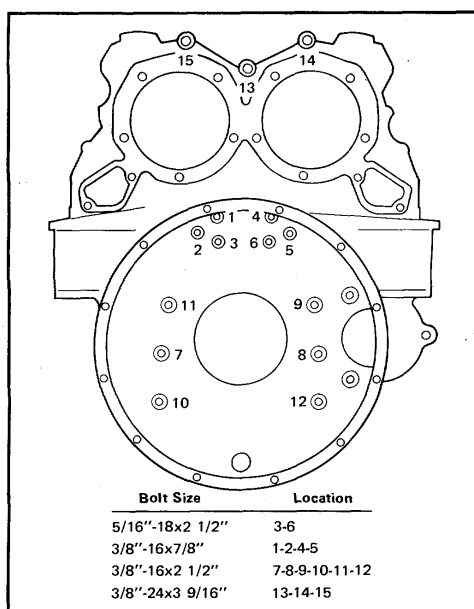

Figure 3. Flywheel Housing Bolt Sizes and Tightening Sequence (Operation 1) - In-Line Engine
If the engine is equipped with a clutch housing, do not install the six bolts numbered 7 through 12 (Fig. 3) until the clutch housing is installed.
8. On an in-line right-hand rotation engine, start at No. 1 and draw the bolts up snug in the sequence shown in Fig. 3.
Prior to Engine Serial Number 4D-103, the bolts numbered 7 through 12 in Fig. 3 were all 5/16-18 bolts and must be tightened to 19-23 lb ft (26-31 Nm) torque